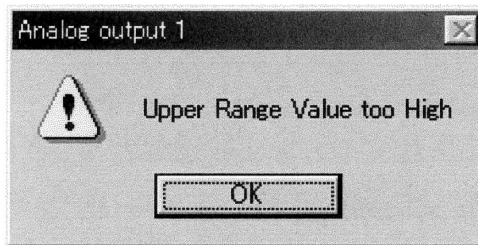

Fig.133
- ② With all setup items entered and "OK" button clicked, when an error is found in these settings on the part of the transmitter, a warning error box like the one shown in Fig. 133 appears.